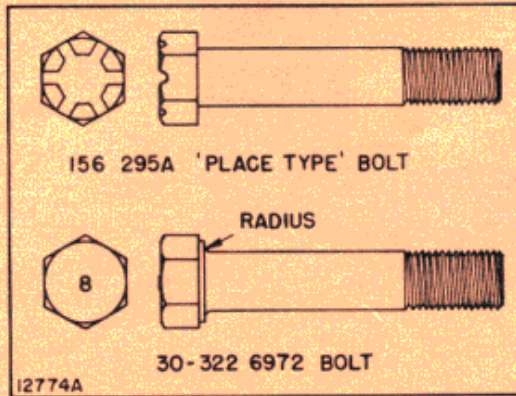

Fig. 1 Old Connecting Rod Bolts
3. Some failures are related to radius on 30-322 6972 Bolt and chamfer in connecting rod cap. (Figures 1 and 2.) Here two situations can exist: